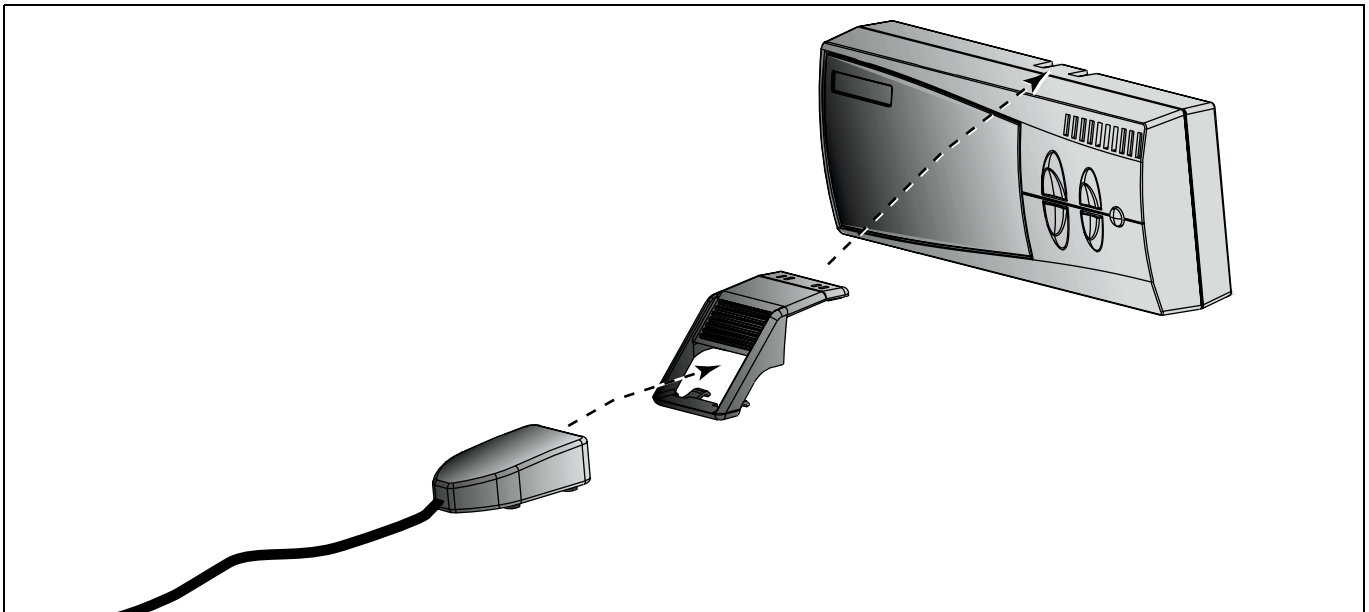

Figure 2: Attaching the OCIVF to the display
2. Slide the OCIVF into the bracket until it clicks firmly into place (refer to Figure 2).